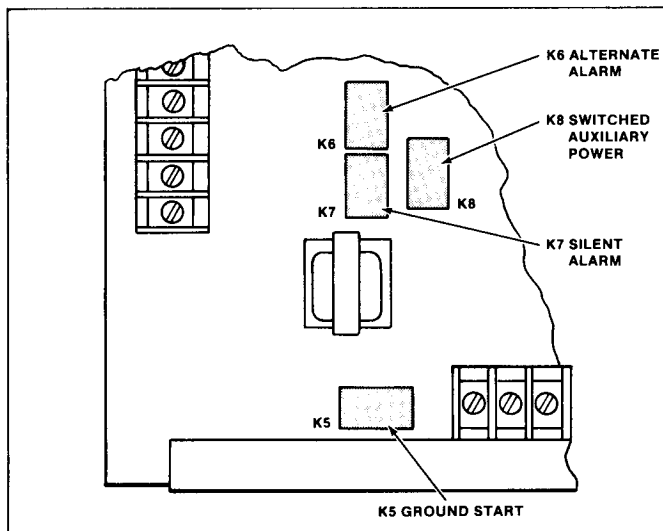

Figure 5. Plug-in Relay Location
7.2 Location - DIP sockets are located on the bottom left corner of the D8112 I/O board. Only the ground start socket (K5) is visible when the faceplate/shield is in place. The other three sockets are located under the shield. When the shield is removed, the sockets are positioned as shown in Figure 5.